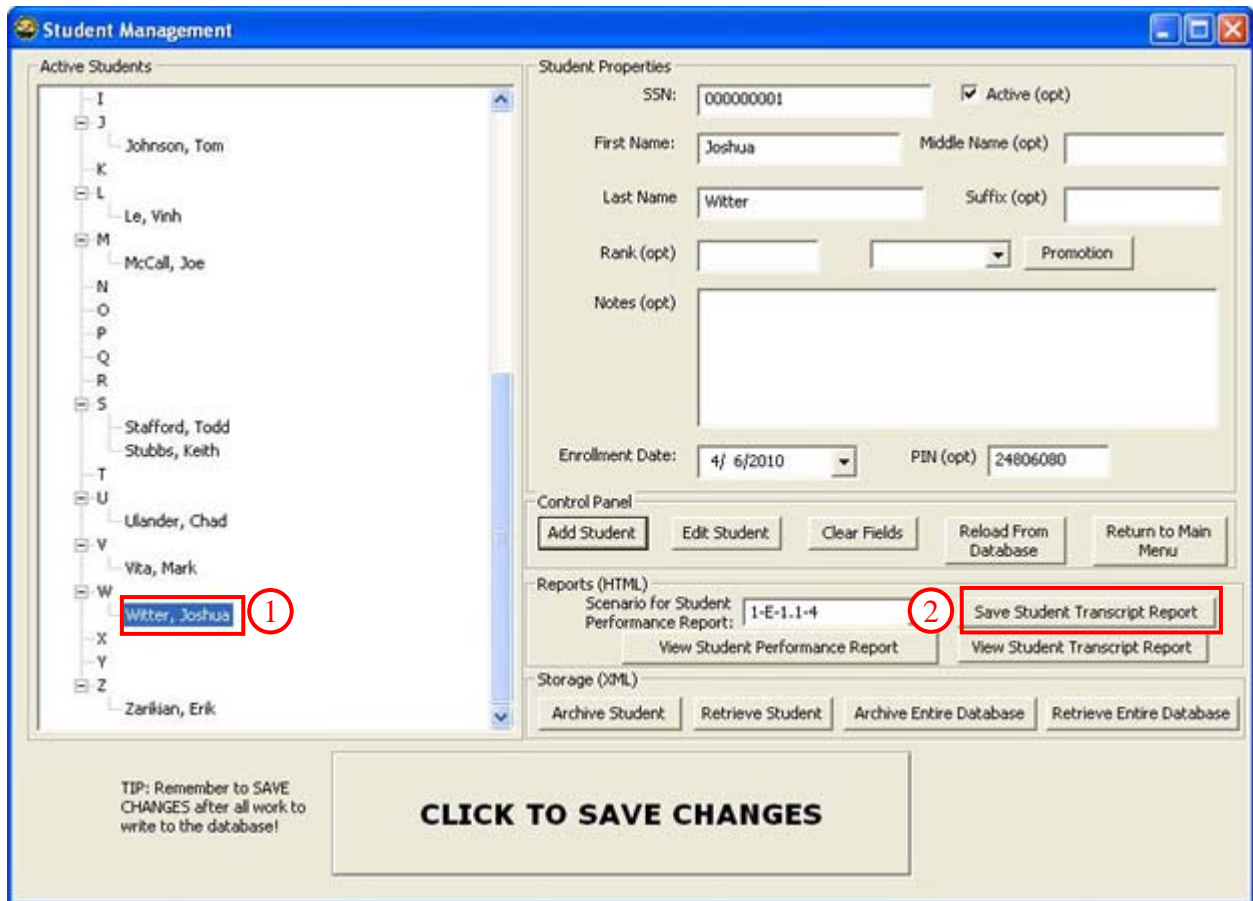

Figure 57. Student Management - Save Student Transcript Report
1. Select a student from the *Active Students* list (Figure 57).